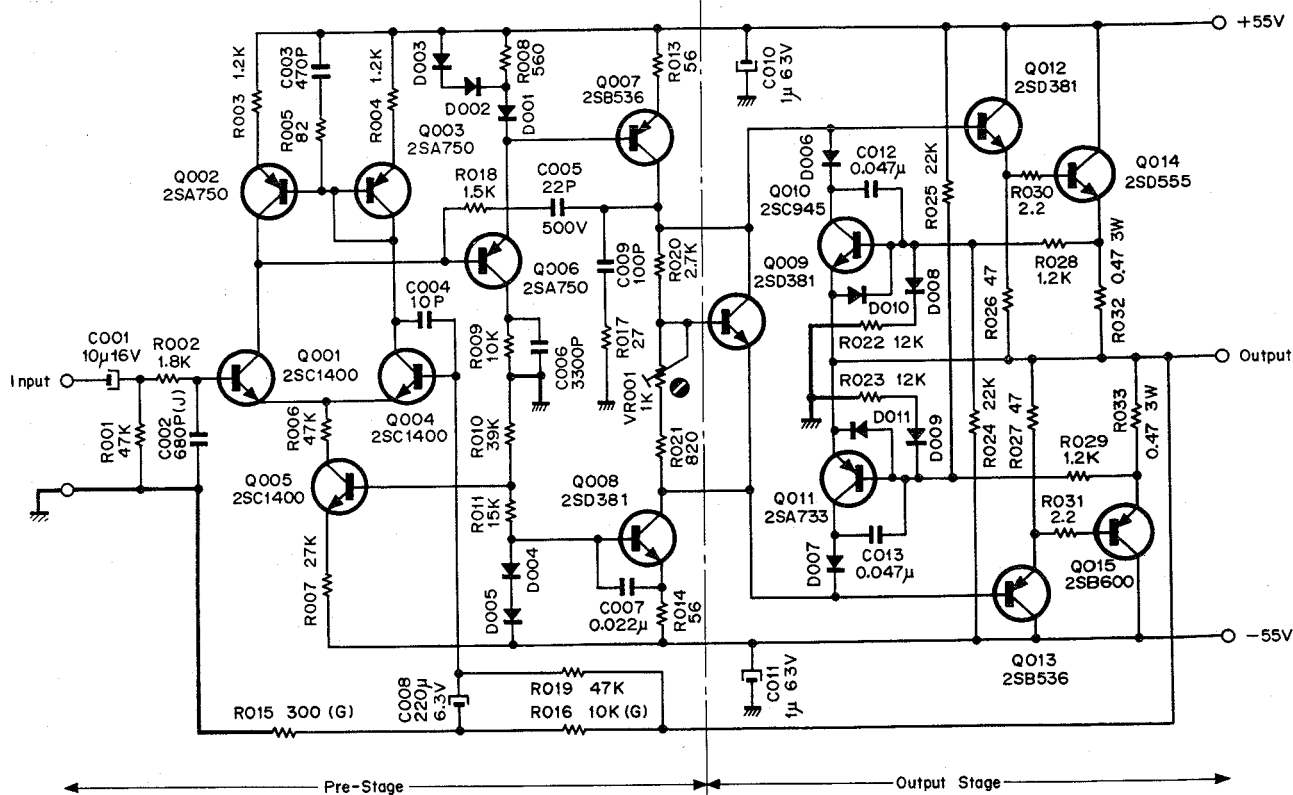
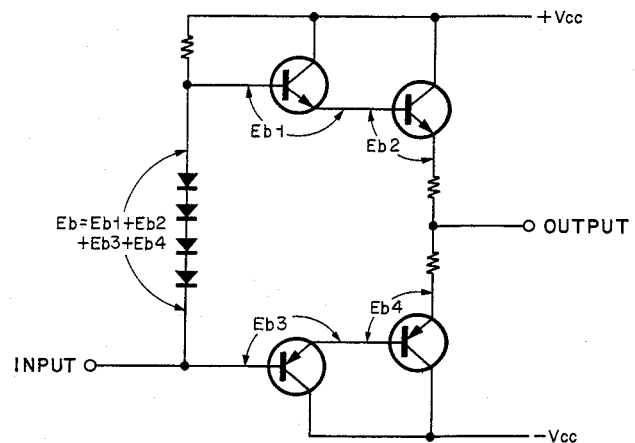

Fig. 2.5.8 Power Amplifier
Fig. 2.5.9 Conventional Circuit
Refer to Fig. 2.5.8.
Especially for a class B push-pull amplifier, distortion cannot be reduced unless the positive and negative signal amplifiers are well balanced. The amplifier in the N-730, however, is best balanced thanks to the vertically and horizontally symmetric configuration as shown in Fig. 2.5.8. This circuit allows distortion of only 0.1% at 1 kHz 105 watts output even without NFB. This degree of distortion is low enough to make the amplifier used as a high-fidelity unit even if it is given no NFB.
Fig. 2.5.9 shows that a change in current flowing across the diode varies the terminal voltage and that E_b changes with signal current. These changes result in the generation of distortion. It is a matter of course that signal current flowing across the diode will produce distortion. See Fig. 2.5.8. Transistor Q009 that generates bias voltage form an emitter-follower circuit of class A operation. Thus this circuit does not induce distorted signals.
For an ordinary class B amplifier, crossover distortion is reduced by increasing idling current thus overlapping the operating ranges of the positive and negative transistors. The overlap portion acts as a class A amplifier. Generally, the degree of amplification decreases where a change takes place from class A to B and no linear curve is obtained as shown a thick continuous line in Fig. 2.5.10 (A). However, if the circuit shown in Fig. 2.5.8 is current-driven, a linear curve can be obtained at the point of change from class A to B as shown in Fig. 2.5.10 (B).